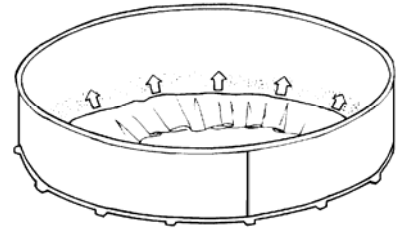

Figure 6.1
- Unfold the liner making sure it is right side up bringing the bottom seam along the base of the pool wall (figure 6.1).